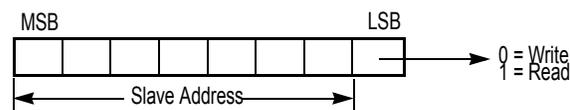

Figure 2. Address Format
After the START condition (S), a Slave address is transmitted. This address is 7 bits long, followed by an eighth bit that is a Read/Write data direction bit (see Figure 2).